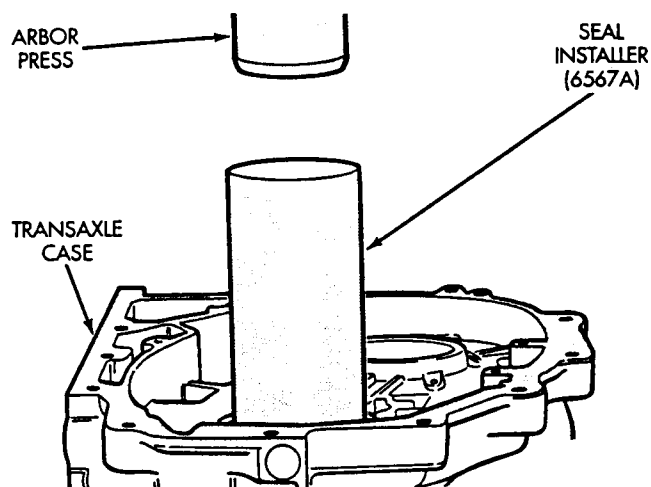

Fig. 27 Seal Installation
(31) Install seal with special tool 6567A (Fig. 27). Use a press to install seal. The installation tool will set the seal depth. Do not use a hammer to install seal. The seal may be damaged if installed with a hammer.